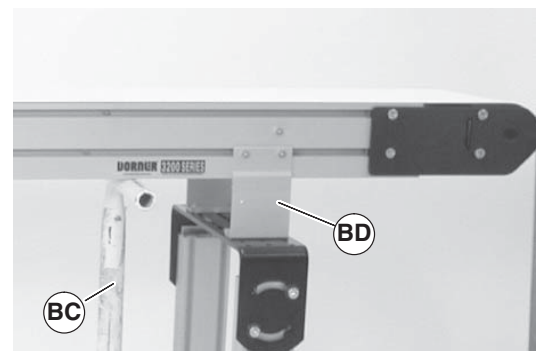

Figure 29
1. Place temporary support stands (Figure 29, item BC) at both ends of the conveyor. See WARNING.
4. Remove first mounting brackets (Figure 29, item BD) from one side of conveyor. (Reverse steps 3 & 4 of “Mounting Brackets” section on page 8).
- Ensure temporary support stands (Figure 29, item BC) are placed at both ends of the conveyor. See WARNING.